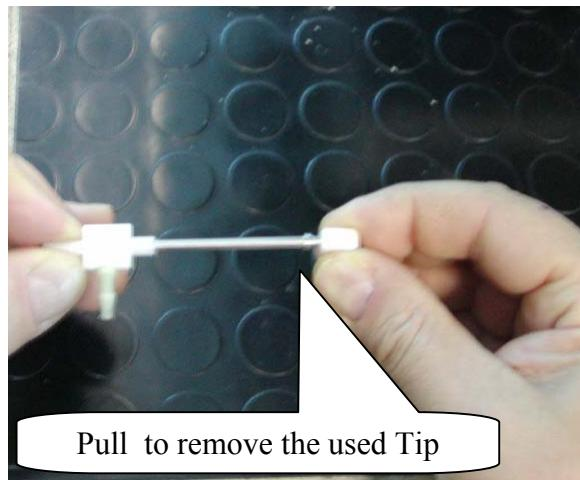

Fig. 8
5. Disconnect the aspiration tube (Fig. 4), remove the used Tip and replace it with a new one. Press lightly to push the new Tip into place – be careful to not press too hard as this could deform the Tip (Fig. 8).